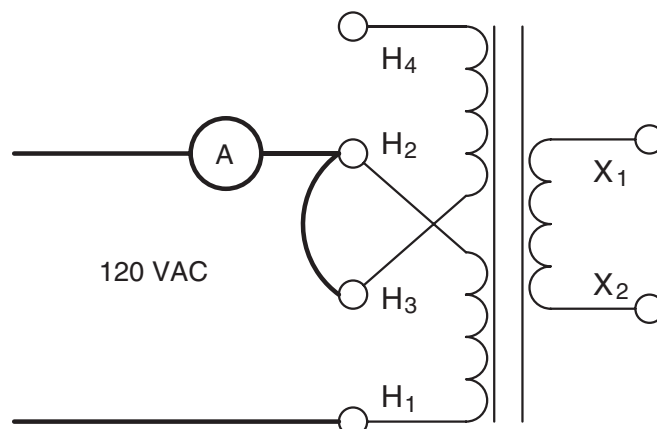

Figure 22-9 The autotransformer connected for high voltage.
23. Reconnect the circuit as shown in Figure 22-9. Terminals H_1 and H_2 will be connected to a source of 120 VAC. Connect an AC ammeter in series with terminal H_2 . The entire winding between terminals H_1 and H_4 will be used as the secondary.